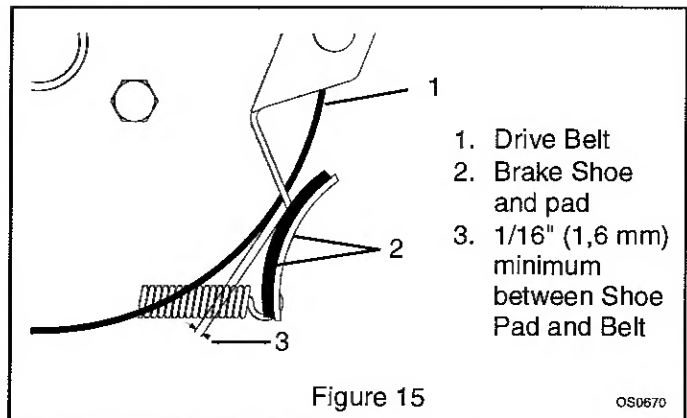

Figure 15
4. Measure distance between impeller brake shoe pad and belt with attachment clutch engaged (Figure 15). Impeller brake shoe should be 1/16" (1,6 mm) minimum from belt. When attachment clutch is disengaged, brake must contact belt.